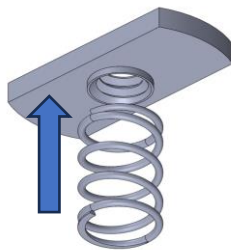
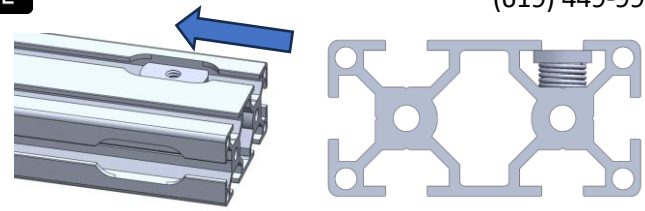

Figure 9: Combining the Spring with the Track Nut
Figure 10: Installing Track Nut & Spring into Crossbar
6. Install spring onto track nut and insert into one of the crossbars as shown in Figure 9 & Figure 10.